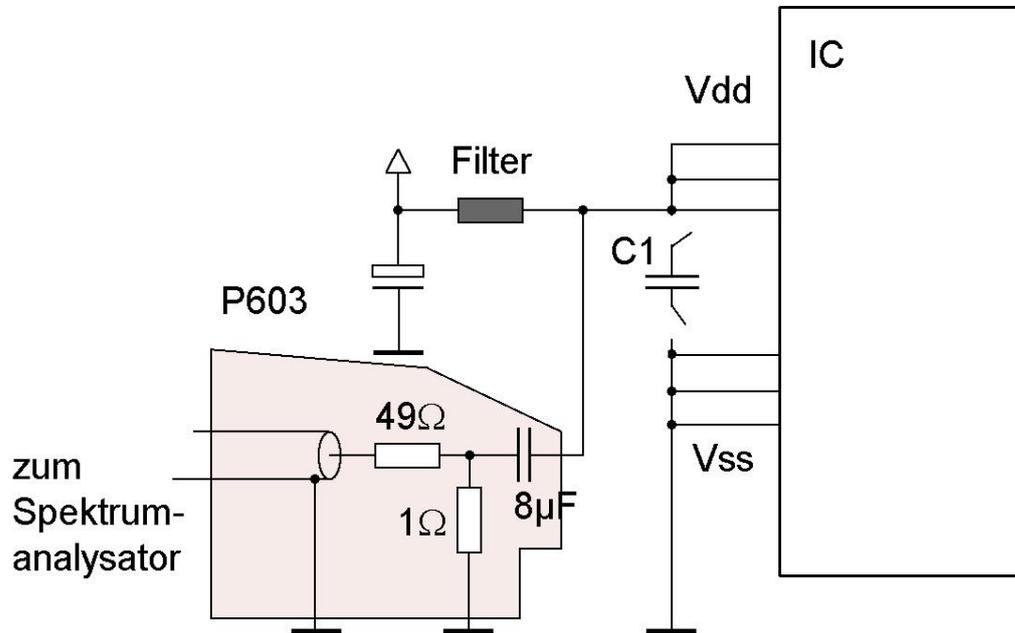
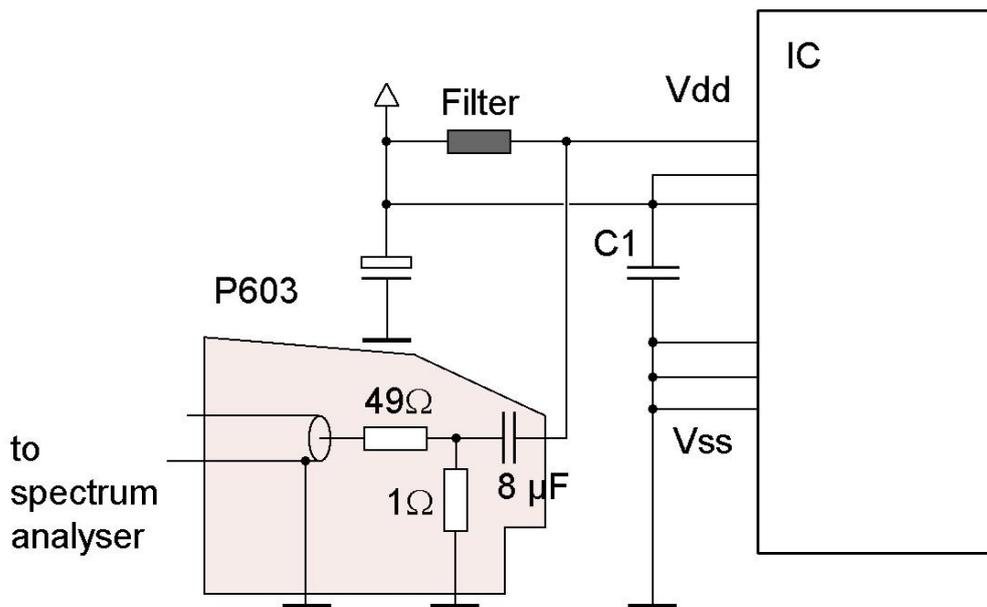

Figure 8: P603, current measurement with a direct current block on concatenated Vdd pins.
Figure 10: P603, current measurement on a single Vdd pin.
1. Current measurement (**P603**) on concatenated Vdd pins, **Figure 8**
3. Current measurement (**P603**) on a single Vdd pin, **Figure 10**
An 8 μF capacitor is integrated into the **P603** probe as a direct current block. It backs up the IC in the circuit diagrams **Figure 8** and **Figure 10**.